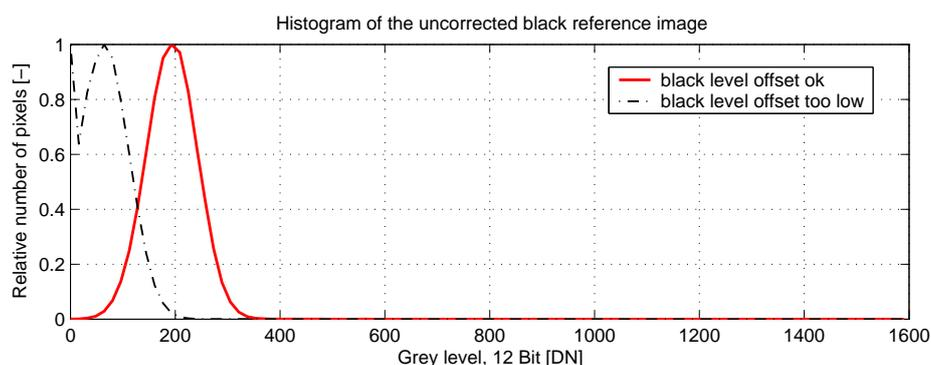

Figure 5.12: Histogram of a proper black reference image for offset correction
- It may be necessary to adjust the black level offset of the camera. In the histogram of the black reference image, ideally there are no grey levels at value 0 DN after adjustment of the black level offset. All pixels that are saturated black (0 DN) will not be properly corrected (see Fig. 5.12). The peak in the histogram should be well below the hot pixel threshold of 252 DN @ 10 bit.